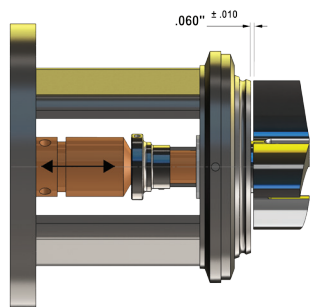

Figure No. 6
1. Install the adapter onto the motor using (4) bolts and (4) lock washers. Position the adapter such that the threaded seal flush adapter hole is located on the top. For BP441 and 641 models add adapter pins.
- d. Using feeler gauge between back plate and impeller position stub shaft so that the gap is equal to $.060'' \pm .010''$. (see figure no.6)